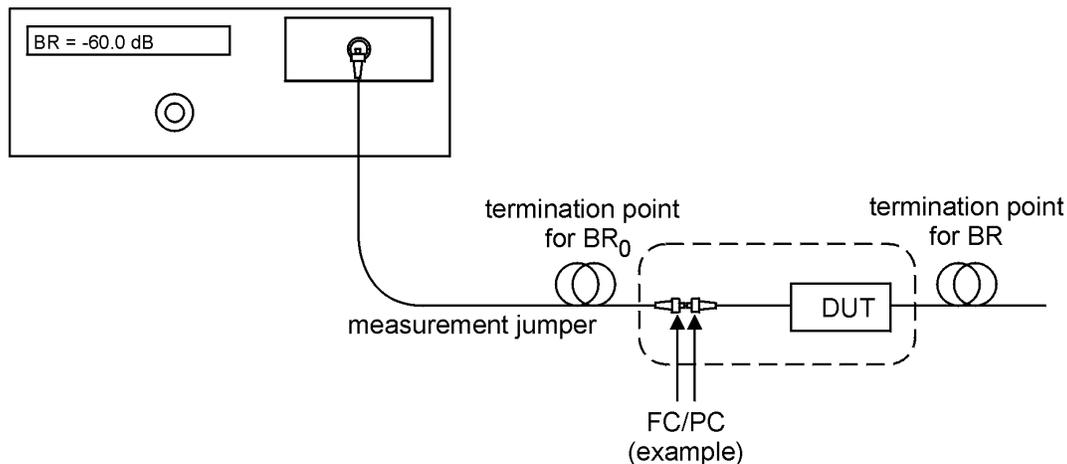
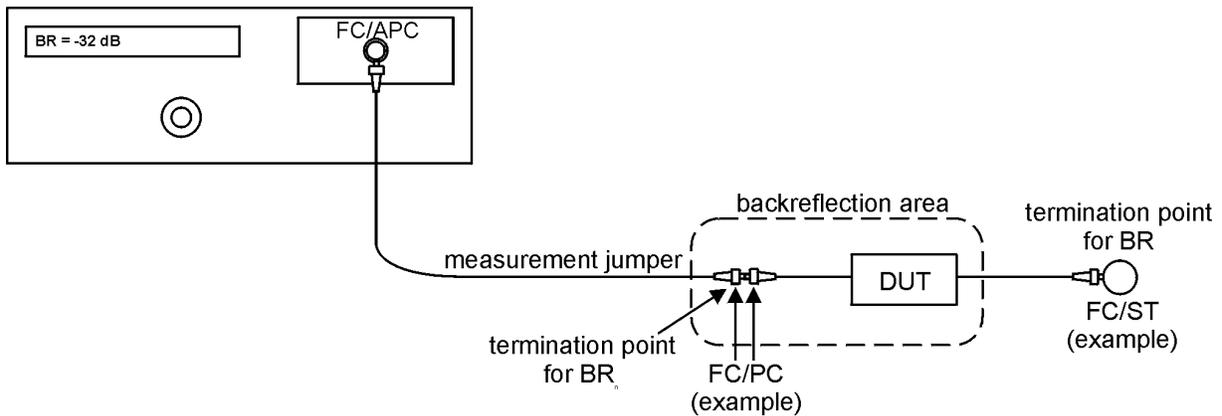

Figure 6a: Measuring Backreflection for Single-mode (except 980 nm)
Figure 6b: Measuring Backreflection for Single-mode (980 nm only) and Multimode
- The second termination is made after the DUT in order to obtain BR_{tot} (figure 6a).
- The second termination is made after the DUT in order to obtain Br_{tot} (figure 6b).
3. Terminate the measurement jumper immediately after the DUT, and hold the termination point steady. The meter displays the backreflection between the two termination points that is caused by the fiber, all connections, and the DUT. This area is shown within the dashed line in Figure 6a for single-mode (except 980nm), and in Figure 6b for single-mode (980nm) and multimode.